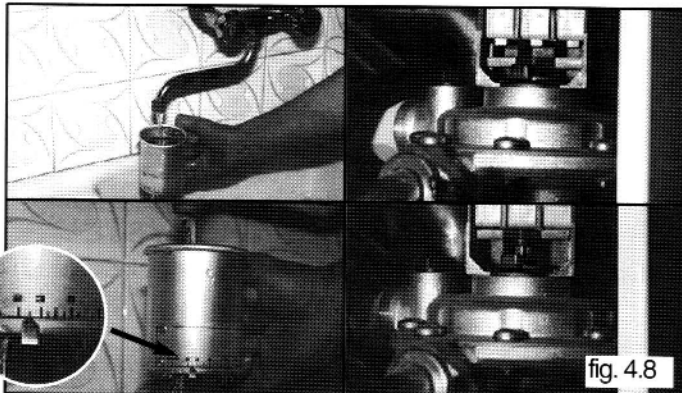

fig. 4.8
- 1 Turn the function switch as indicated and check the switching flow rate that should be at minimum 2.5 lts/min (0.66 gals/min);(see fig. 4.8)